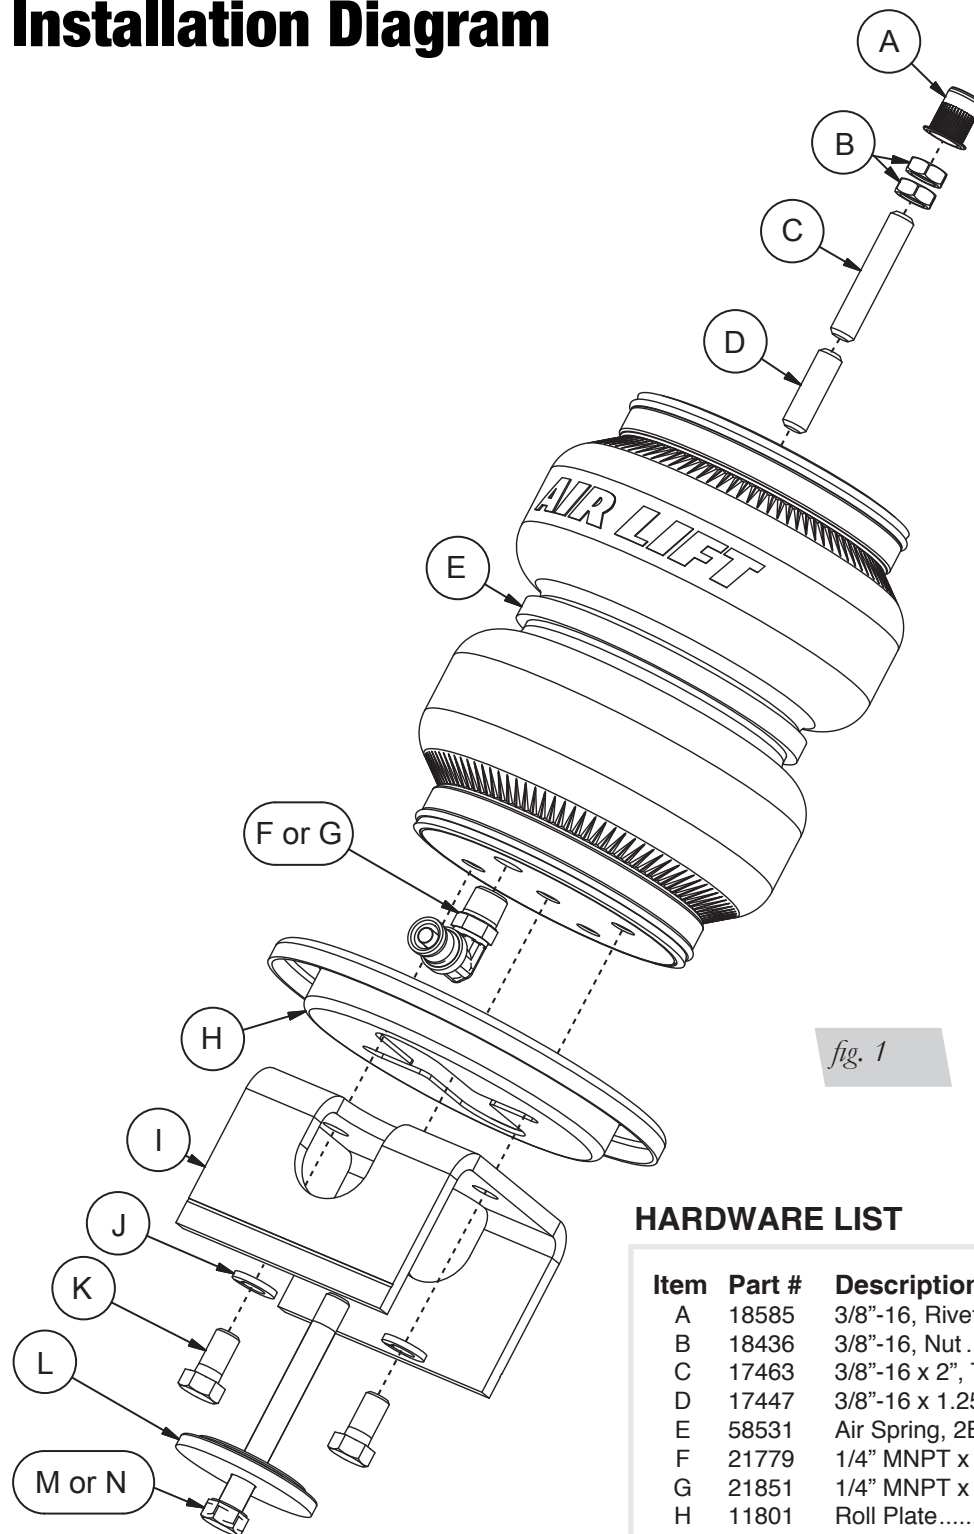
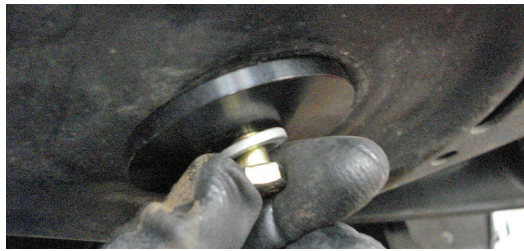

fig. 1
fig. 25
3. Two lengths of threaded studs are included with the kit (C or D, Fig. 1). The shorter stud is for vehicles that retain the coil spring perch bump. The longer threaded stud is for vehicles without the spring perch bump. Apply thread-locking compound to the threads of the upper end cap and thread in the appropriate stud. Take the supplied nuts and thread both onto one stud (Figs. 8 and 9). Using the nuts jammed together, tighten the stud into the end cap until it bottoms (Fig. 10). Remove both nuts (Fig. 11).
If the lower bracket has been cut, the shorter length bolt should be used to secure the assembly to the lower transverse link with the centering washer and lock washer. Uncut brackets use the longer bolt (C or D, Fig. 1) (Fig. 25).